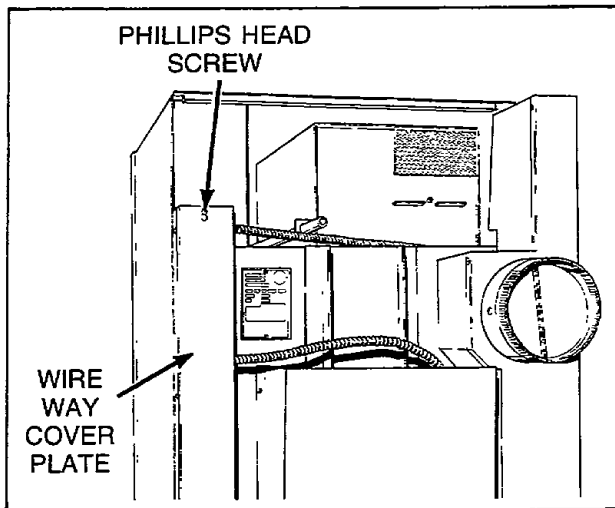
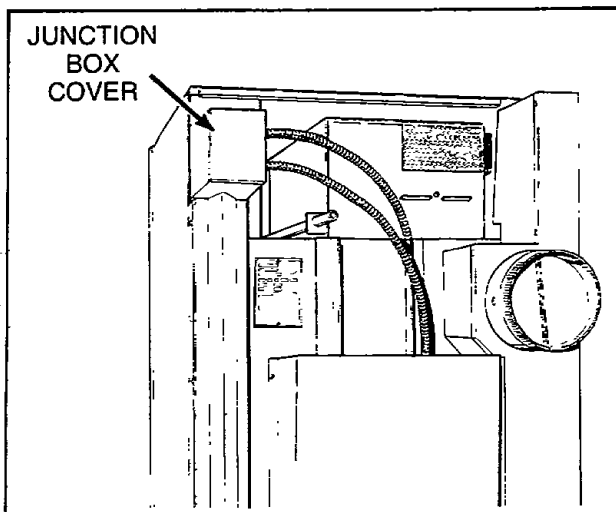

Figure 10
Figure 11
- f. Remove Phillips head screw holding wire way cover plate to rear of tumbler, *Figure 10*, or remove two Phillips head screws attaching junction box cover, and six Phillips head screws attaching wire cover to cabinet back, *Figure 11*.